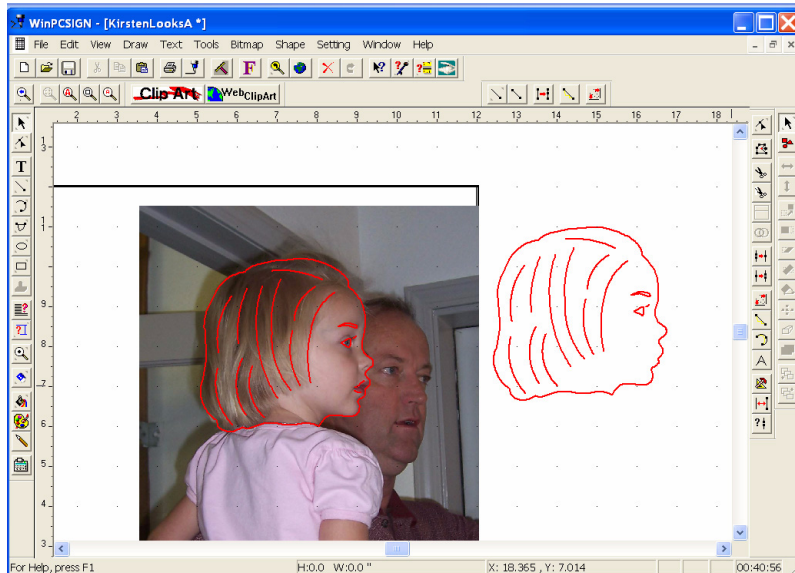

Figure 123
- 2 From the **Edit** menu, click **Copy and Paste** to make a copy of your project. The copy will assist you in seeing if any adjustments must be made. See figure 123.